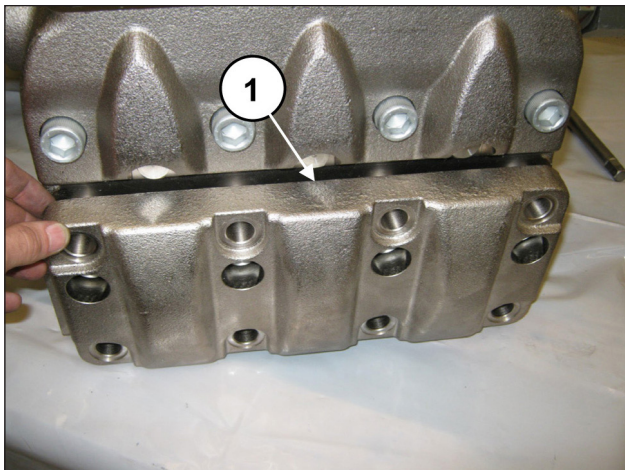
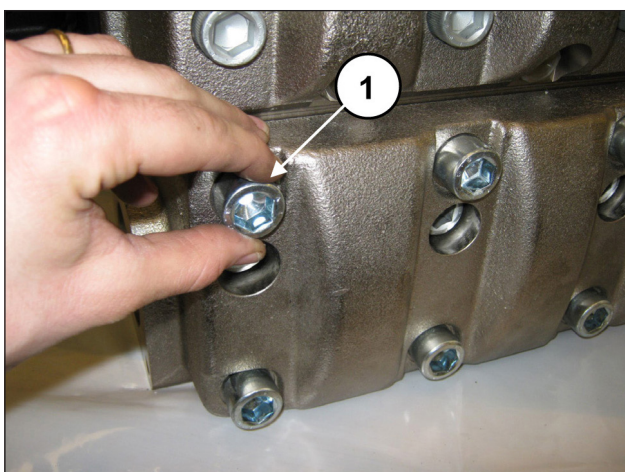

Fig. 158
Fig. 159
After having completed assembly of the suction valves units, apply the suction valves cover (pos. ①, Fig. 158) and screw in the 8 M18x65 screws (pos. ①, Fig. 159).